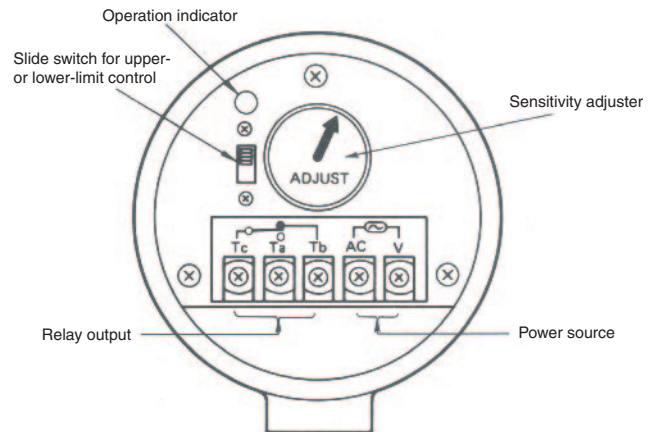

Fig. 7 Connections and Wiring
Performing wiring, referring to the wiring diagram in Fig. 7.
1. When the TLB-KSR Level Sensor is connected as shown in the Fig. 7, its relay operates (or releases) when an object comes into contact with the electrode of the Level Sensor.